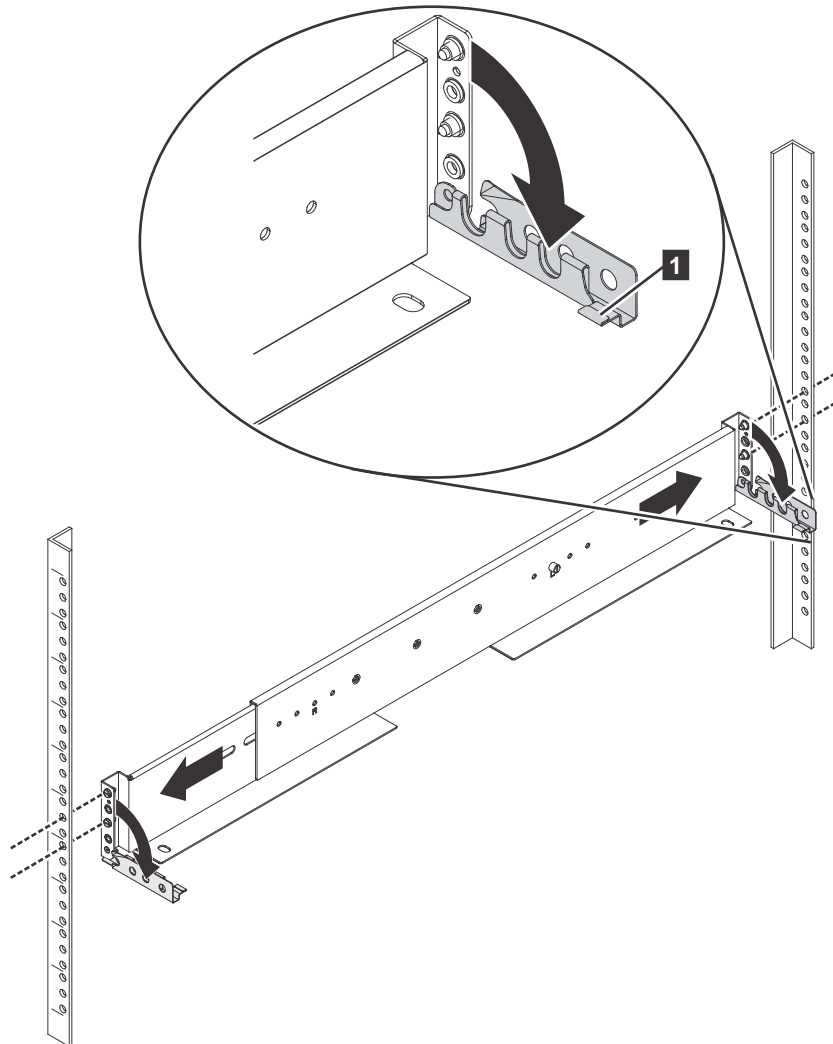

Figure 9. Opening the hinge brackets
6. At each end of the rail, grasp the tab **1** and pull *firmly* to open the hinge bracket (see Figure 9).